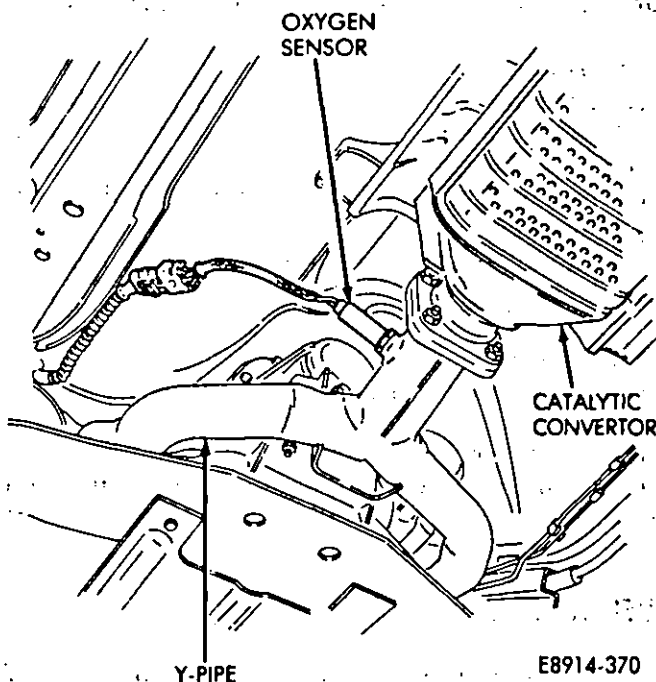

Fig. 8—O₂ Sensor Removal/Installation
The exhaust gas oxygen (O₂) sensor is located in the exhaust "Y" pipe before the catalytic converter (Fig. 8).
- (1) Raise the car on a hoist.
- (2) Disconnect electrical connector from O₂ sensor (Fig. 8).
- (3) Unscrew O₂ oxygen sensor from the Y-pipe.
- (4) Clean the threads in the Y-pipe.